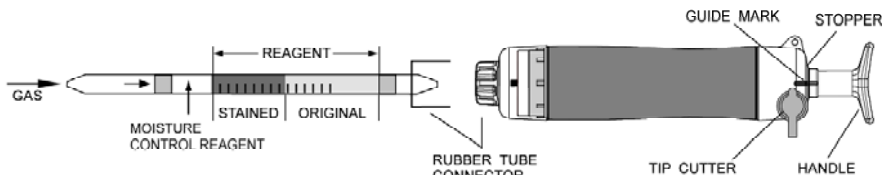

Fig.1
- ① Break both ends of detector tube.
- ② Insert the detector tube into aspirating pump securely as shown in Fig.1. (Arrow mark shall point to the pump.)
- ③ Align the guide marks on the shaft and stopper of the aspirating pump.
- ④ Pull the pump handle at full stroke until it locks and wait for 1 minute or until the completion of sampling is confirmed with the flow indicator of the pump (See descriptions about the flow indicator in the instructions of the pump).
- ⑤ On completion of sampling, read the scale at the maximum point of the stained layer.
- ⑥ In case of 2 or 5 pump strokes: After the above step ④, push the handle without removing the detector tube from the pump inlet, turn it right or left by 1/4, and repeat the step ④ and this pushing procedure another 4 times.
- ⑦ On completion of 4 pump strokes sampling, read the scale at the maximum point of the stained layer and then multiply the reading value by 1/2 or 1/5.
- ① Temperature; Correct the tube reading by following temperature correction table.